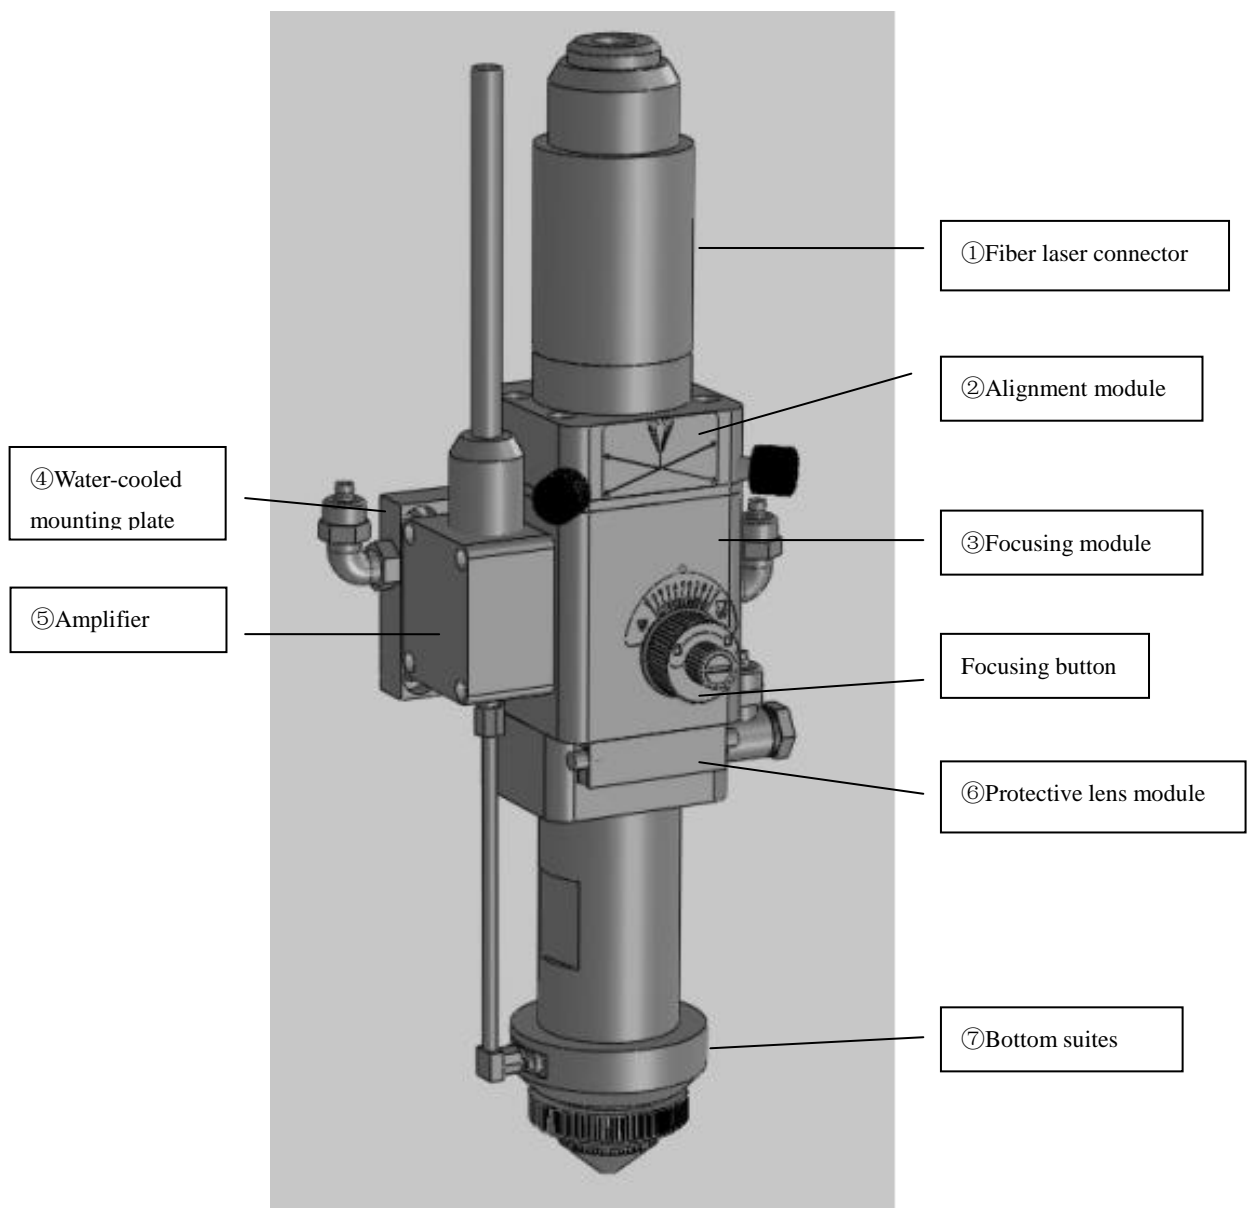

Fig.1
The cutting head is composed of 7 major components, and the components include the following items from top to bottom by taking QBH as an example: ① fiber laser connector; ② alignment module; ③ focusing module; ④ water-cooled mounting plate; ⑤ amplifier; ⑥ protective lens module; ⑦ bottom suites, as shown in fig.1.